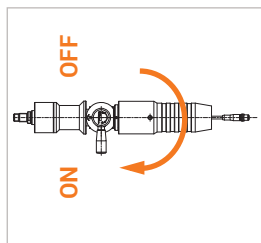

Figure 7
- ▶ Turn the actuation lever (Pos. 3) on the fueling nozzle through 180° to the ON position (*Figure 7*).